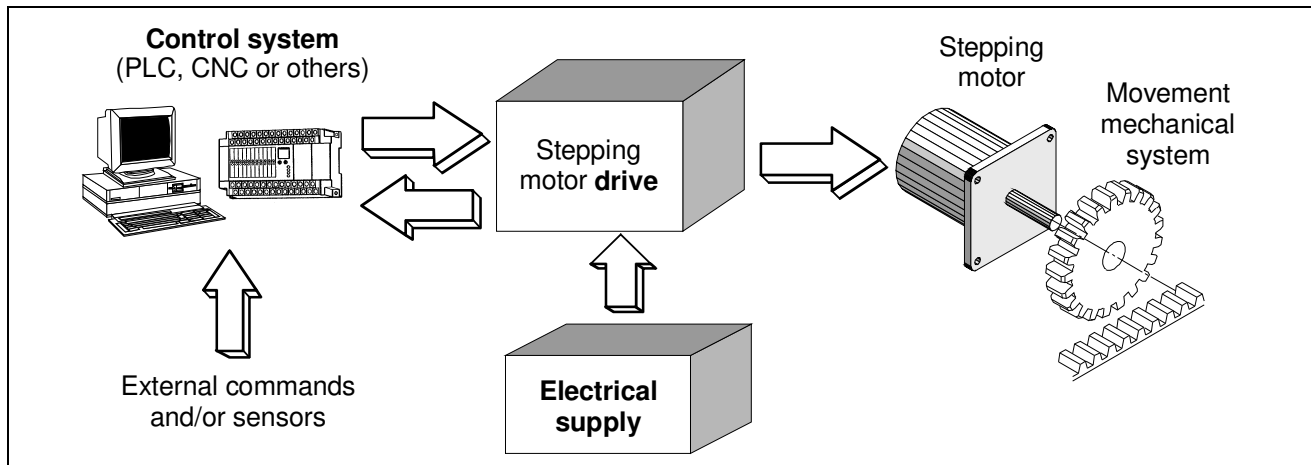

Fig. 1
1.2 - For the purposes of this manual the terms used assume the meaning below described (see Fig. 1).
- Drive: electronic part of an electromechanical motion system, which receives some digital or analog input signals from an external control system and gives to the stepping motor the suitable phase excitation sequences, in order to obtain the mechanical movements required by the control system. The drive can also communicate its status to the control system through some logic signals. In this manual we consider the drive as a BDM (EN 61800-3, chap.3, Fig.1)